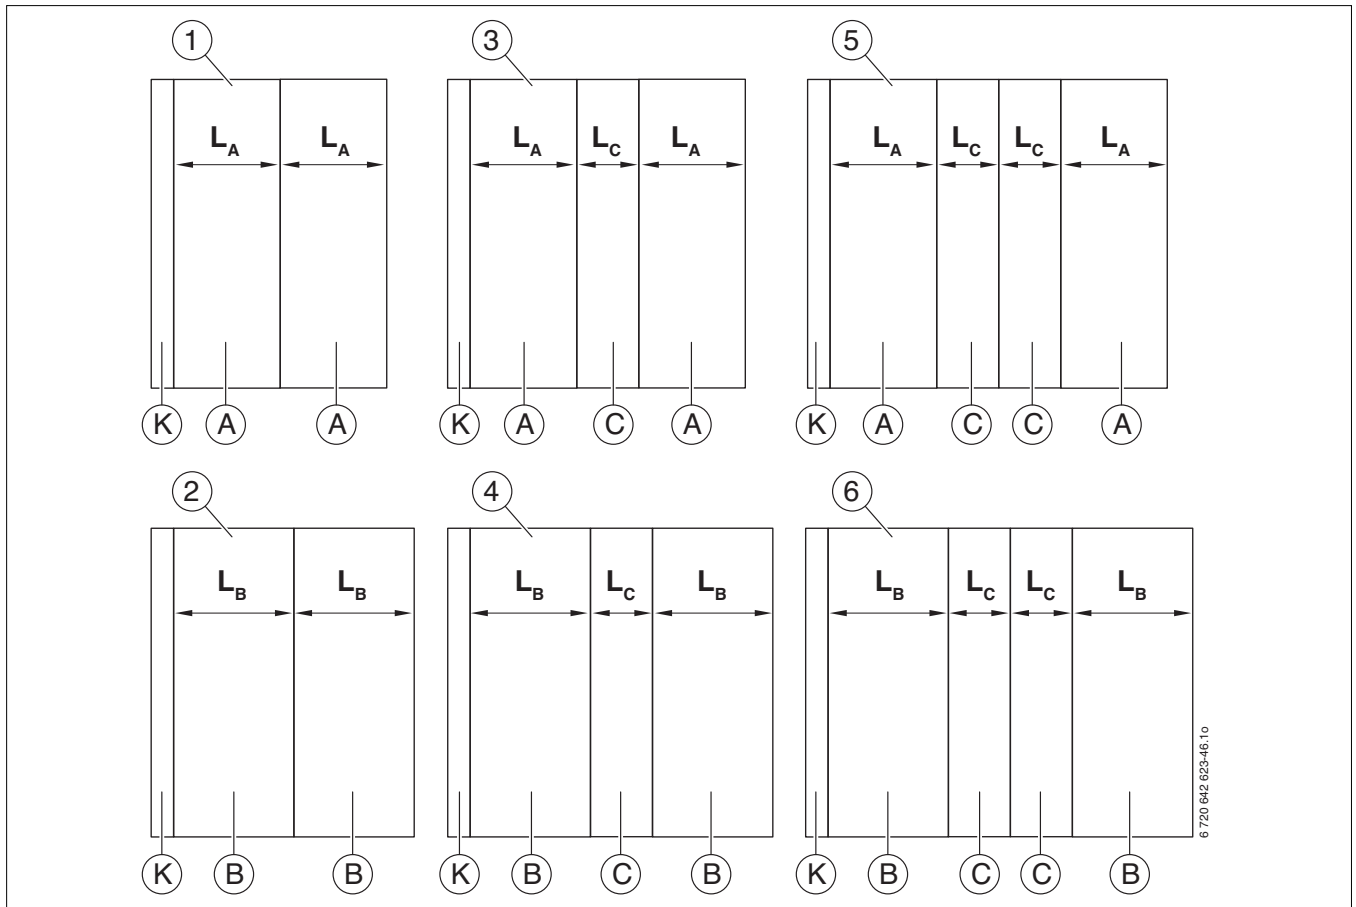

Fig. 48 Arrangement of side panels for the various boiler sizes (dimensions in inches (mm))
► Fit all side panels as shown in the diagram (→ Fig. 48).